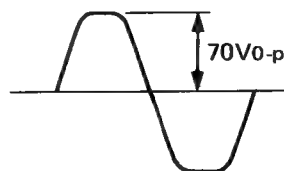

Fig. 19
- a. With no dummy load, apply a 20 kHz sinewave. A normal sinewave should be obtained and a clear clipped waveform of about 70 V_{o-p} output should be obtained with no oscillation at clipped portion as shown in Fig. 19.